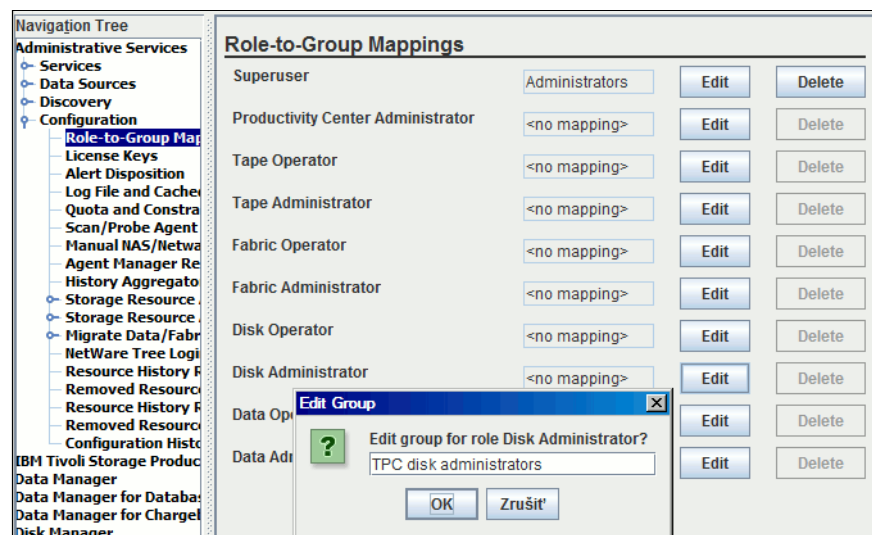

Figure 12-8 Assigning the Windows user group Disk Administrator to the TPC Role Disk Administrator
2. Add the Group you created in Windows to a Role, as shown in Figure 12-8. For DS8000 system management, the recommended roles are Disk Operator, Disk Administrator, and Security Administrator.